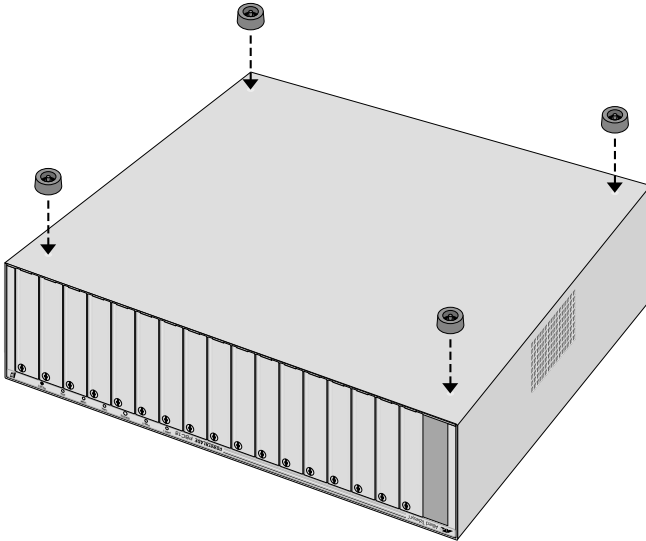

Figure 6 Attaching the Rubber Feet
3. Attach one of the rubber feet to each corner of the chassis, then turn the chassis right side up. See Figure 6.